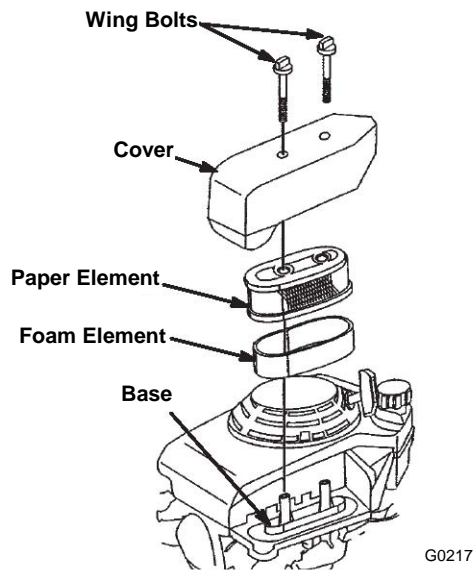

Figure 23
3. Remove the 2 wing bolts that secure the cover (Fig. 23).
5. Remove the foam and paper elements from the base (Fig. 23).
6. Remove the foam element from the paper element (Fig. 23).